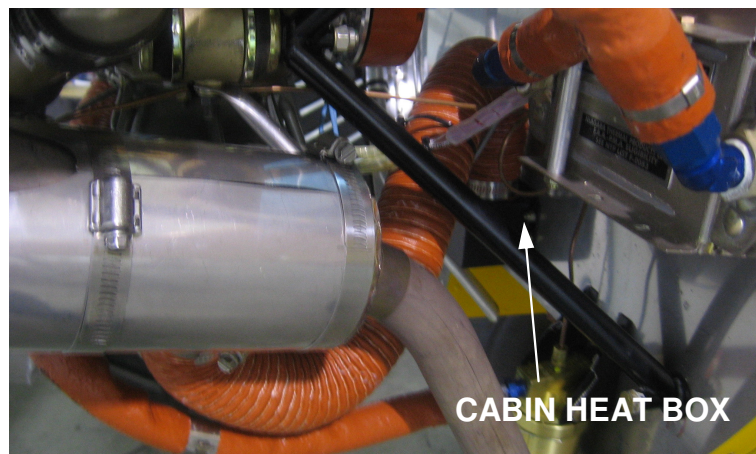

FIGURE 10: Cabin Heat Aero Scat Duct Routing
14. Connect new 2" SCAT Aero Duct (RM0006-001) from Heat Muffler Assembly, LH (Cabin Heat) to Cabin Heat Box on firewall. Ensure clearance between fuel line and SCAT Aero Duct tube. See Figure 10.